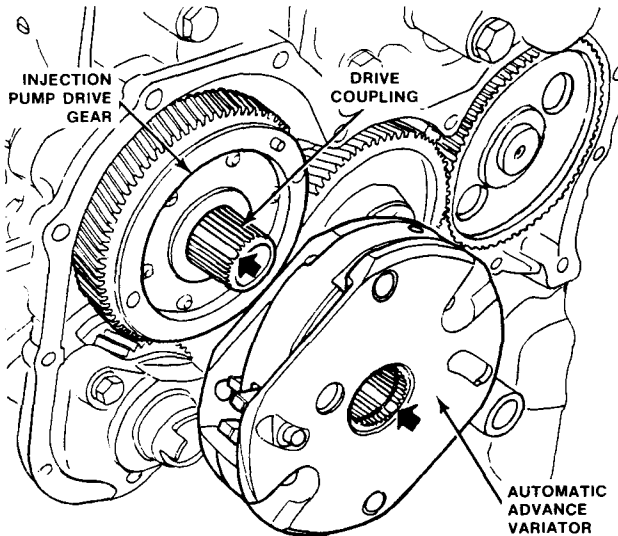

FIG. 39 Removing Automatic Advance Variator (SSD-655)
17. **SSD-655 Engine** — Remove the automatic advance variator from the injection pump drive coupling (Fig. 39). Remove the injection pump flange bolts. Remove the pump from the rear of the timing gear case.